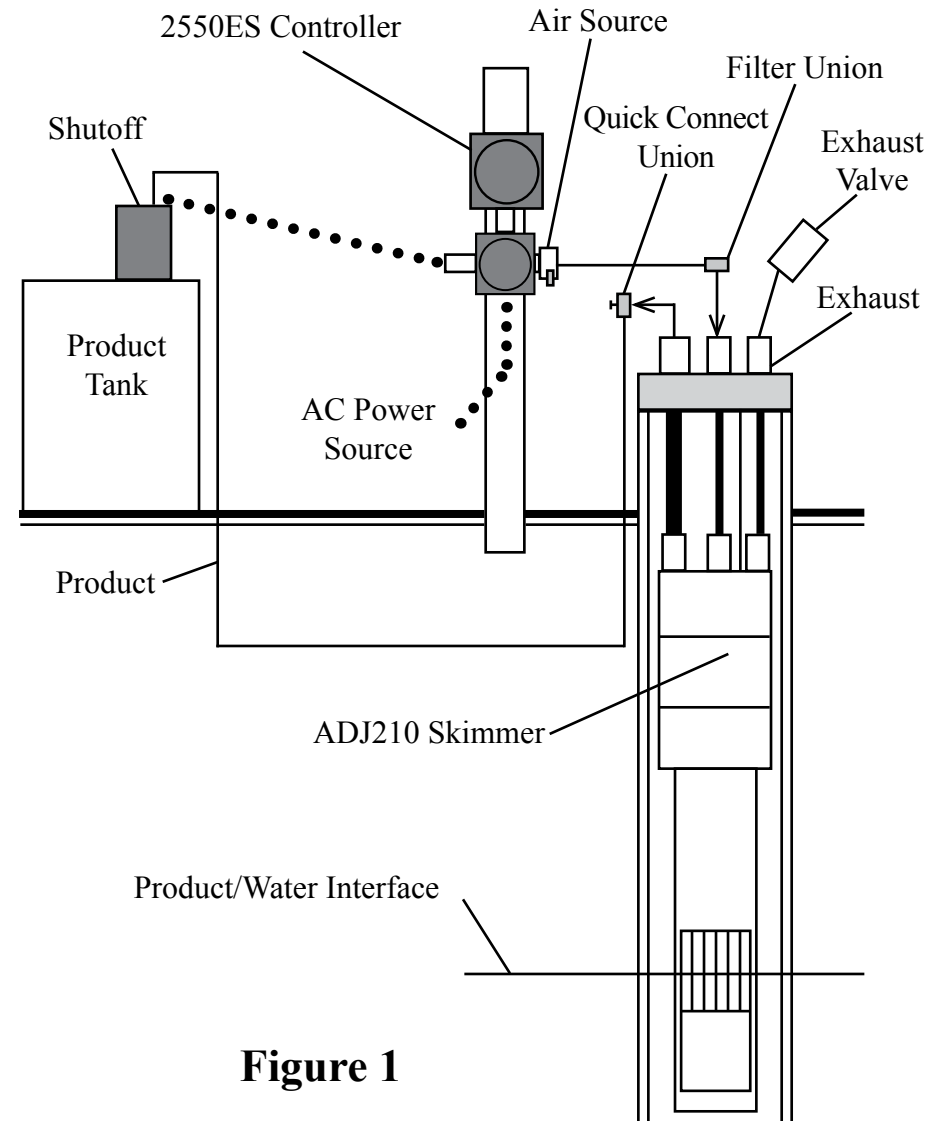
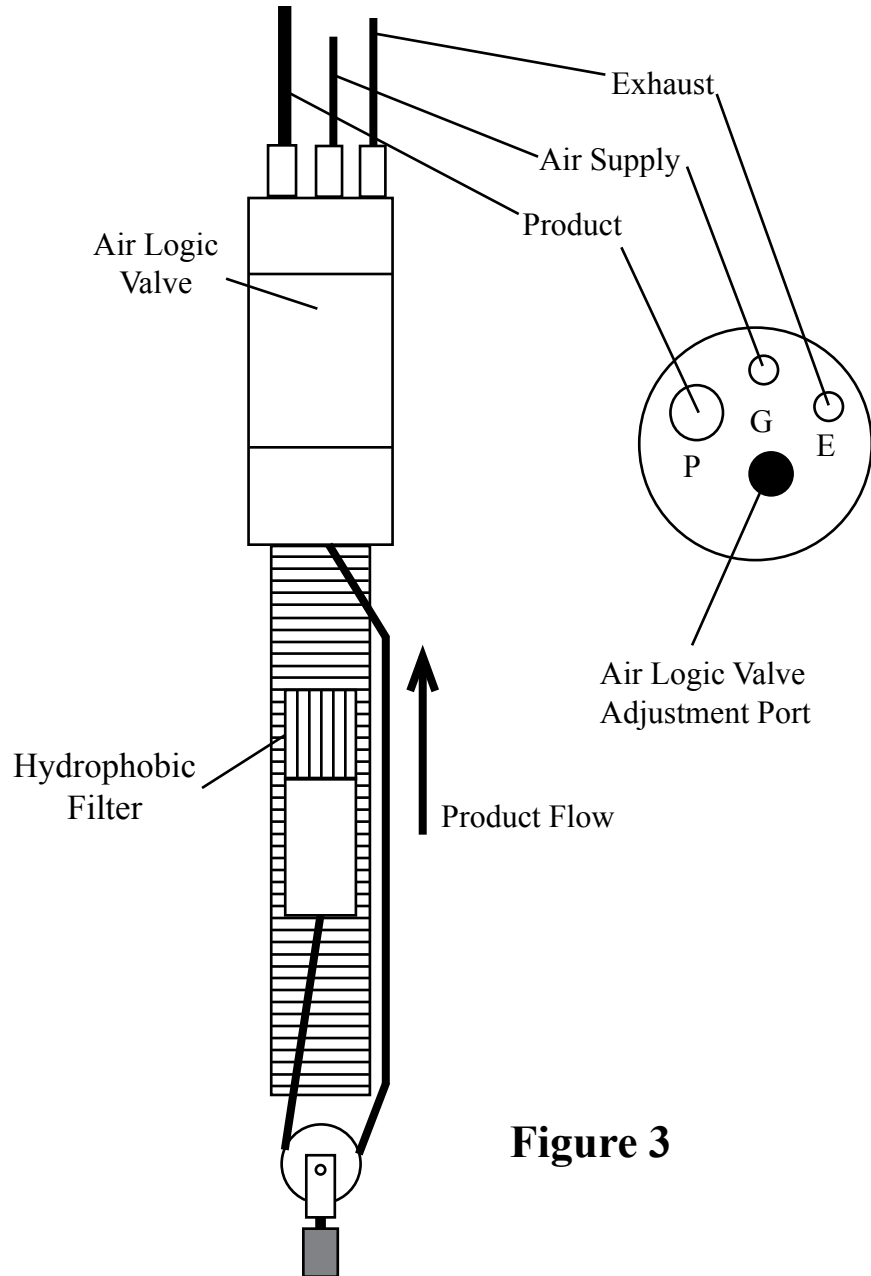

Figure 1
Figure 3
The system (Figures 1 and 2) relates to floating hydrocarbon recovery in wells two inches in diameter and larger. This system includes: an intrinsically safe ADJ210 pneumatic Smart Skimmer (Figure 3) which removes only product to a sheen up to 200 feet deep; and a two function electronic Class I Controller Model 2550ES for hazardous locations which operates the skimmer intermittently, and has a high level tank shutoff.
STEP 7. Position the skimmer and well cap on the ground near the well. Cut a length of 1/4" OD air supply tubing to cover the distance from the top of the well down to water/product interface, plus 5 feet. **NOTE:** If the skimmer is over 70 feet deep, use 3/8" OD air supply tubing in stead of 1/4" OD tubing. Slide enough tubing through the well cap and attach the end of the tubing to the top of the skimmer tube fitting labeled "G" (Figure 3). If the product thickness is greater than 1 foot, position the center of the skimmer screen 1 foot below top of product. If the product thickness is less than 1 foot, position the center of the skimmer screen at the water/product interface.
STEP 8. Cut a length of 5/16" OD product tubing same length as the air supply line. Install 5/16" OD product tubing through the well cap tube fitting labeled "P" (Figure 3). Slide enough tubing through the well cap and attach the end of the tubing to the top of the skimmer tube fitting labeled "P". **CAUTION:** Do not kink the tubing.